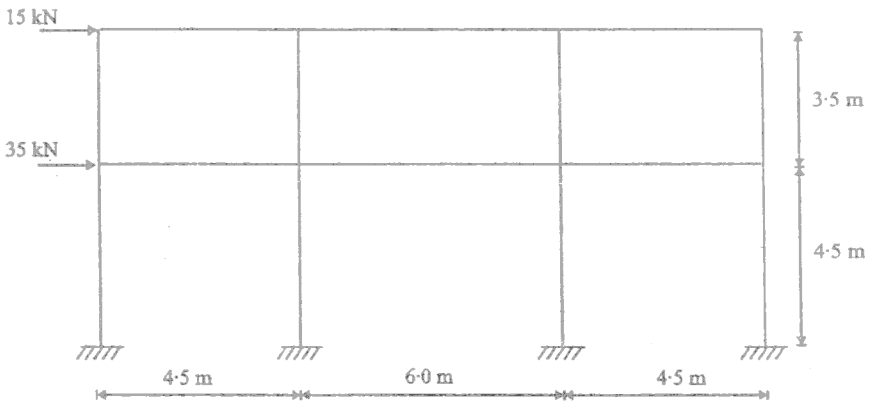

Fig. 5
- (b) Analyse the frame shown in fig. 5. 15